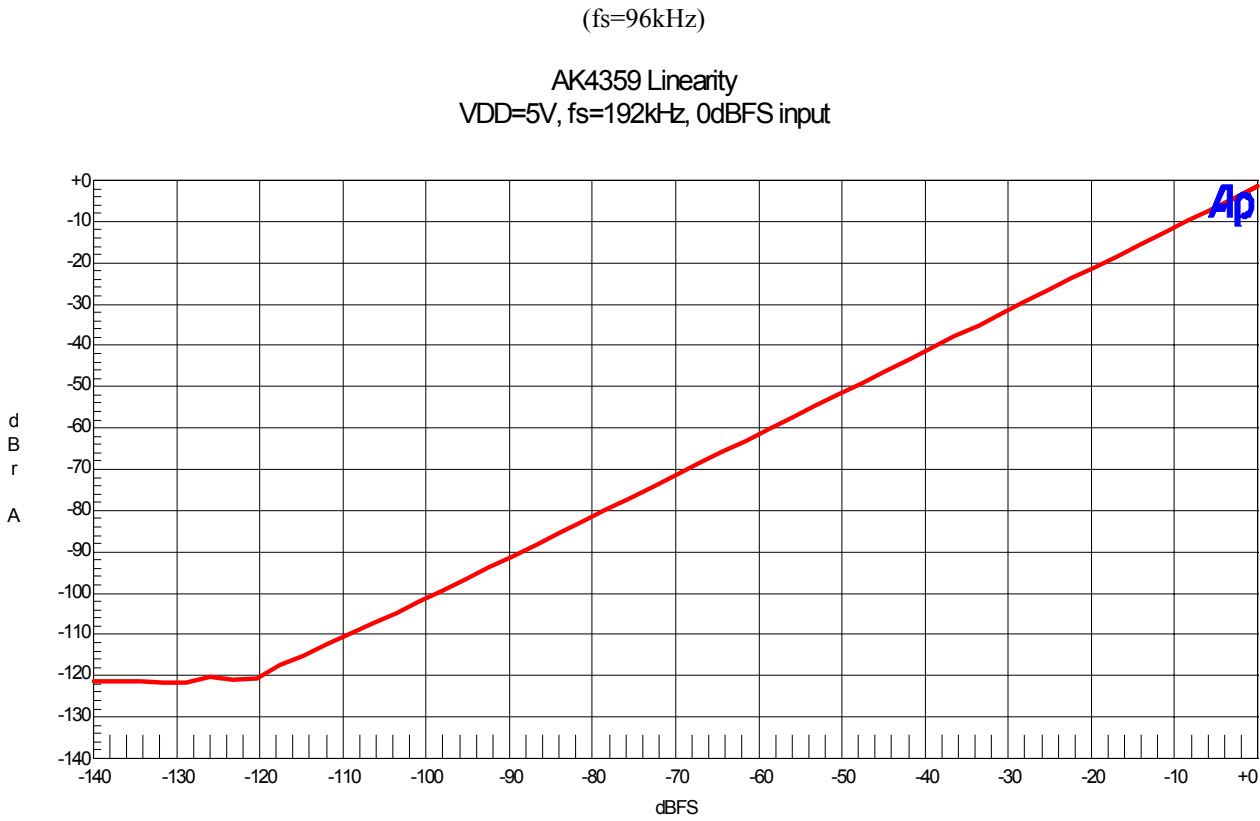

Figure28. Linearity (fin=1kHz)
- Figure28. Linearity (fin=1kHz)